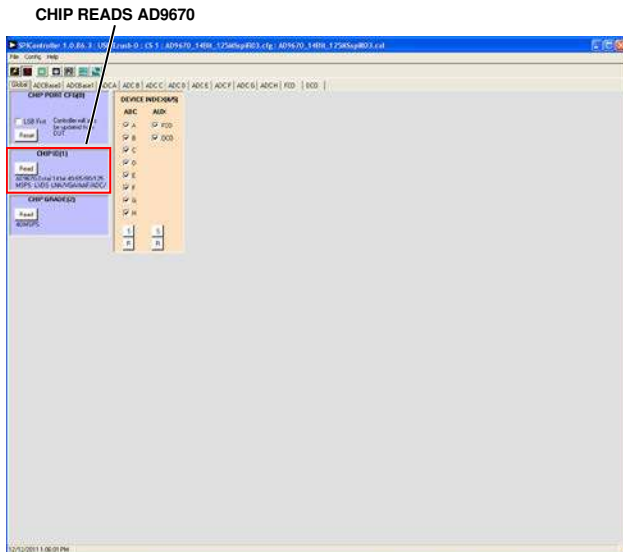

Figure 2. SPIController Main Window
4. Launch the SPIController software to open the window shown in Figure 2 and select the AD9670.cfg file from the dropdown list (under **File > Cfg Open Menu**). After the **Open File** dialog appears, browse for and select the AD9670\\_14bit\\_125MSspiR03.cfg file. The chip ID reads AD9670 (see Figure 2) after loading the AD9670.cfg file.